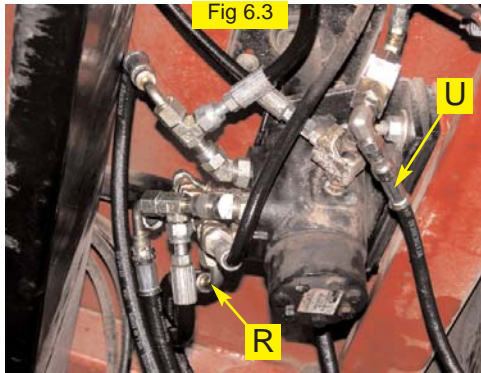

Fig 6.3
Install the load sense hose (U) between the LS port of the hydraulic control block and the open end of the load sense shuttle installed in step 7. (Figure 6.3 and 6.4)